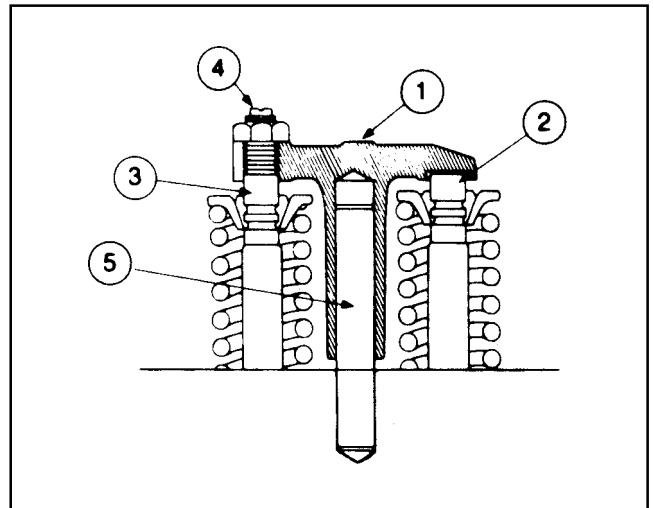

Fig. 7-9. Valve crosshead
1. Loosen the valve crosshead adjusting screw locknut and back off the screw (4. Fig 7-9) one turn.
2. Use light finger pressure at the rocker lever contact surface (1) to hold the crosshead in contact with the valve stem (2).